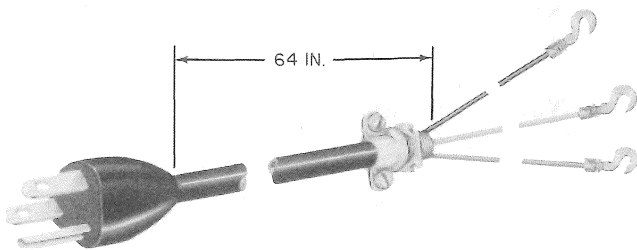

Fig. 4—KS-19425, List 22 Cable Assembly
- (a) ***KS-19425, List 22 cable assembly (Fig. 4):***